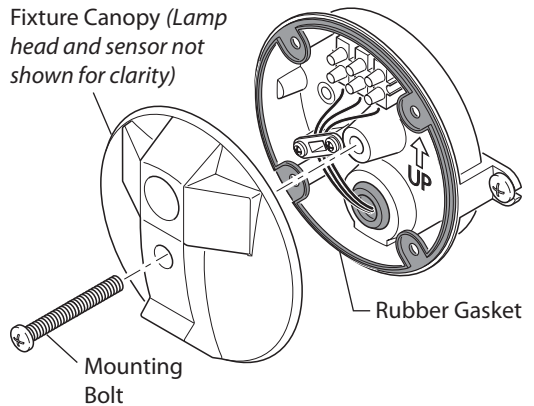

Figure 6
2. Verify the rubber gasket is properly seated around the edge of the canopy extension (see Figure 6).
3. Align the center hole on the fixture canopy with the center hole on the canopy extension and attach using the mounting bolt removed in step 1 of *Installation* (see Figure 6).